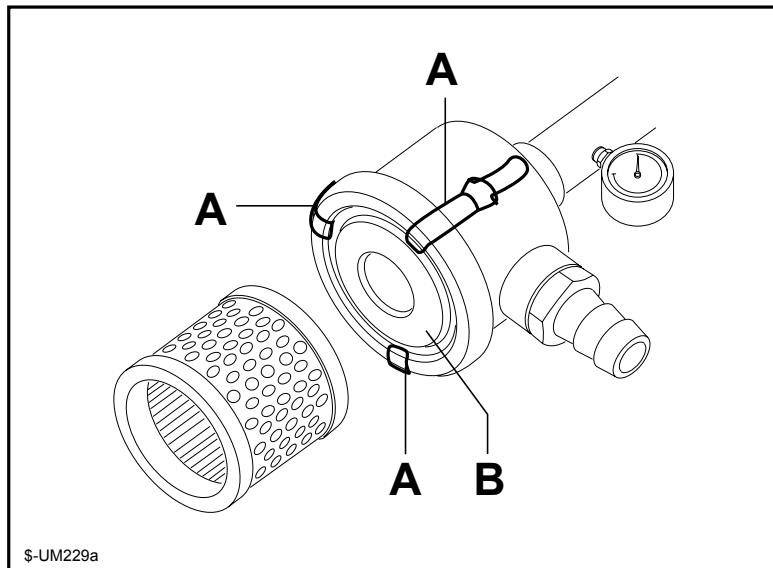

Fig. 5.6
- Undo the spring clips A (fig.5.6) and remove cover B.